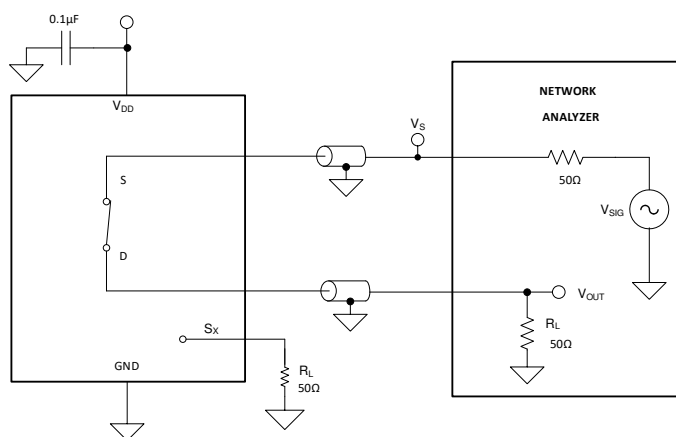

图 27. Bandwidth Measurement Setup
Bandwidth is defined as the range of frequencies that are attenuated by less than 3 dB when the input is applied to the source pin (Sx) of an on-channel, and the output is measured at the drain pin (D) of the device. 图 27 shows the setup used to measure bandwidth.